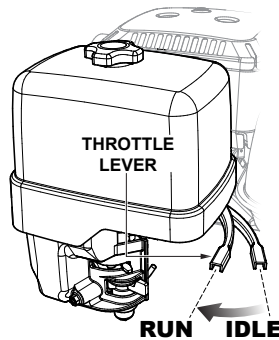

Figure 15. Throttle Lever (Run)
9. To begin pumping, place the throttle lever (See Figure 15) in the **RUN** position. If water is not flowing out of the discharge port, turn off the engine and check for and clear any obstructions within the suction hose.